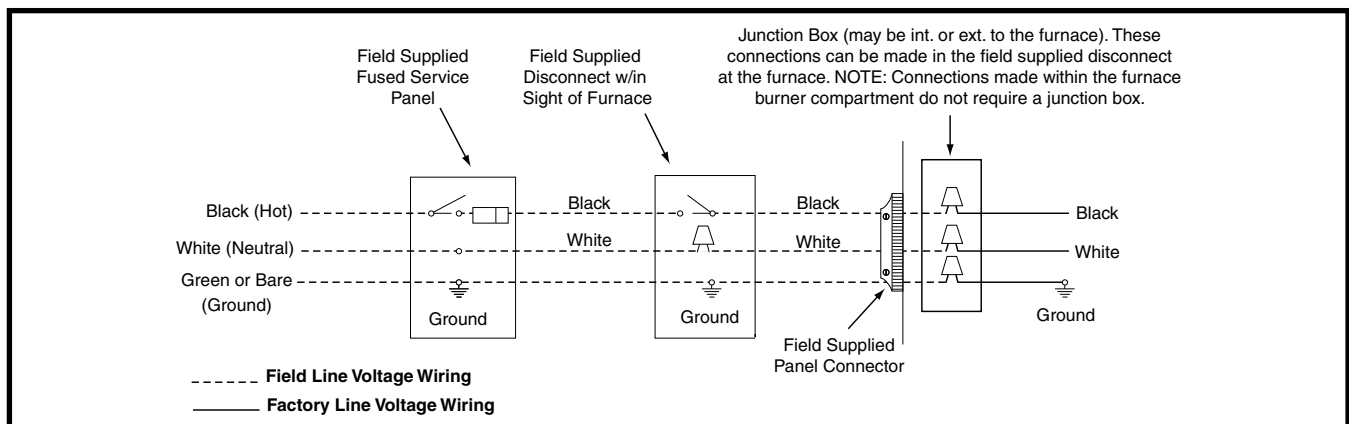
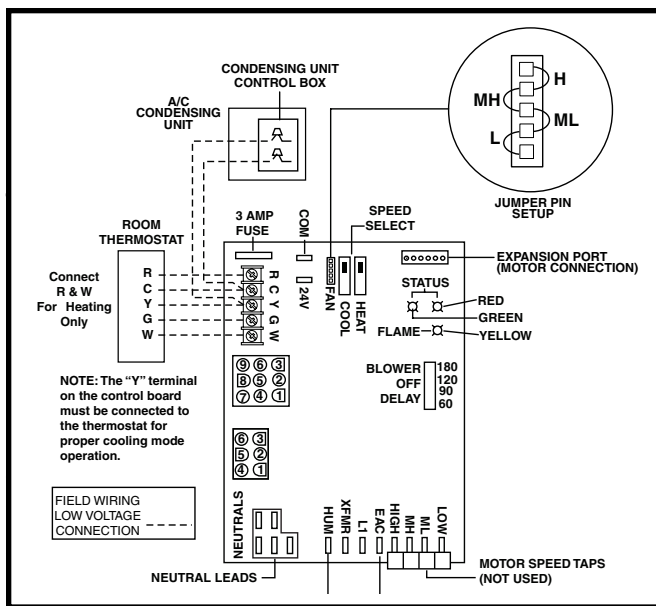

Figure 27. Line Voltage Field Wiring
Figure 28. Low Voltage Field, Four-wire Heating/Cooling Applications
An electrical disconnect must be installed readily accessible from and located within sight of the furnace. See Figure 27 (page 27) or the wiring diagram label inside of the control door. Any other wiring methods must be acceptable to authority having jurisdiction.
Proper line voltage polarity must be maintained in order for the control system to operate correctly. Verify the incoming neutral line is connected to the white wire and the incoming HOT line is connected to the black wire. The furnace will not operate unless the polarity and ground are properly connected as shown in Figure 27.
- The thermostat must be installed according to the instructions supplied by the thermostat manufacturer. Low voltage connections (24 VAC) from the thermostat are wired to the terminal strip on the integrated control in the furnace. Figure 28 contains the proper connections for heating only (two-wire) and heating/cooling (four-wire) applications. Recommended minimum wire gauge for thermostat wiring is shown in Table 5 (page 27).
- The six pin terminal marked "Expansion Port" (Figure 28) is not used in the single stage furnace as shipped from the factory. It is used for the furnace control board to communicate to a fixed speed or variable speed high efficiency motor that may be optionally installed. Please contact your distributor for the proper upgrade motor kit.
- ✓ Verify the jumper setting (for fan speed) on the control board. To select fan speed, see Figure 28 and set the jumper on the control board.
The operating sequences for the heating, cooling, and fan modes are described below. Refer to the field and furnace wiring diagrams: Figure 27 (page 27), Figure 28 (page 28), Figure 33 (page 40), and Figure 34 (page 41).